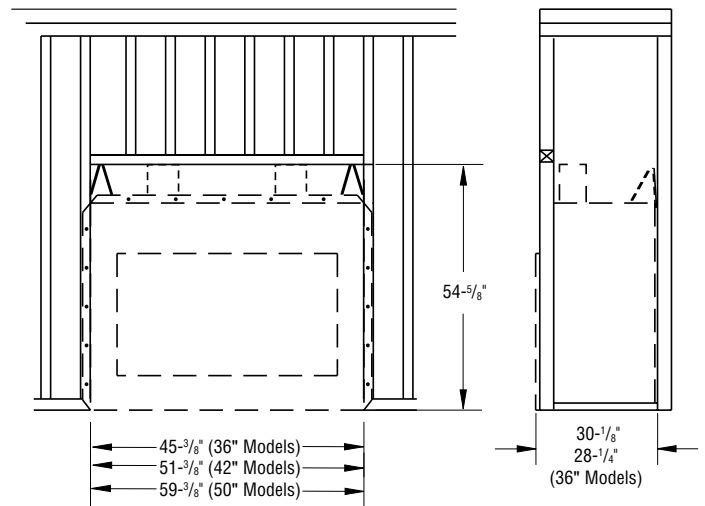
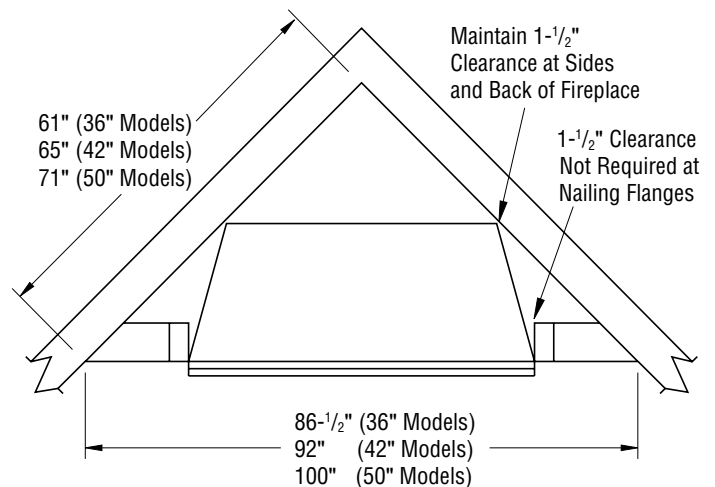

Figure 8 - Framing Dimensions
Figure 9 - Corner Installation
1. Frame in rough opening. The firebox framing should be constructed of 2 x 4 lumber or heavier. Use dimensions and rough opening layout in **Figure 8**. Adjust framing so that firebox flushes with finished wall surface. If installing in a corner, use dimensions in **Figure 9**, for rough opening.